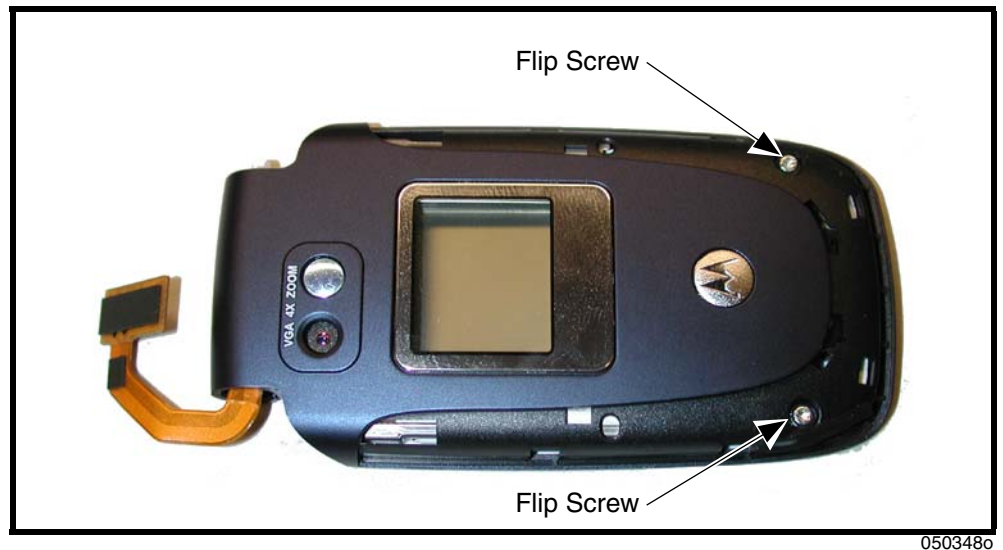

Figure 12. Removing the Flip Assembly Screws
2. Use the Torx driver and a T6 bit to remove the 2 flip screws from the flip assembly (see Figure 12).